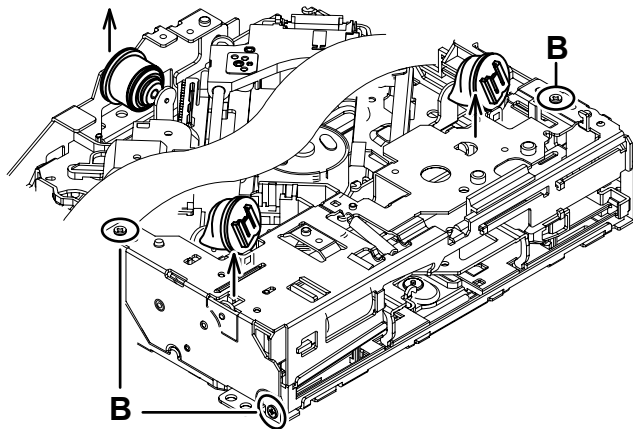

Fig.5
- (2) Remove the three screws **B** attaching the bottom frame assembly. (See Fig.5)
- (3) Remove the three dumpers from the bottom frame assembly. (See Fig.5)